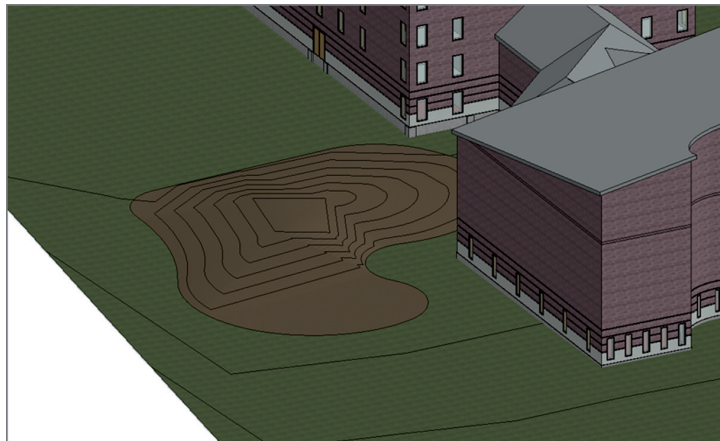

FIGURE BC3.10: The raised area of the site
9. Deselect the topography. Your site should resemble Figure BC3.10.